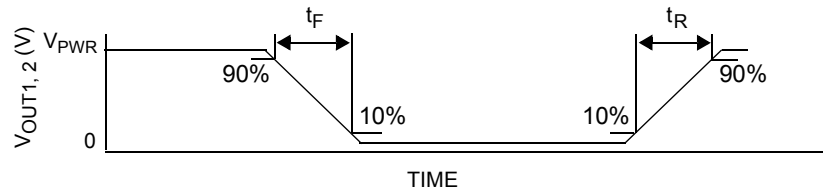

Figure 6. Output Switching Time
26. Rise Time is from the 10% to the 90% level and Fall Time is from the 90% to the 10% level of the output signal with $V_{\text{PWR}} = 14\text{ V}$, $R_{\text{LOAD}} = 3.0\text{ ohm}$. See Figure 6, page 9.